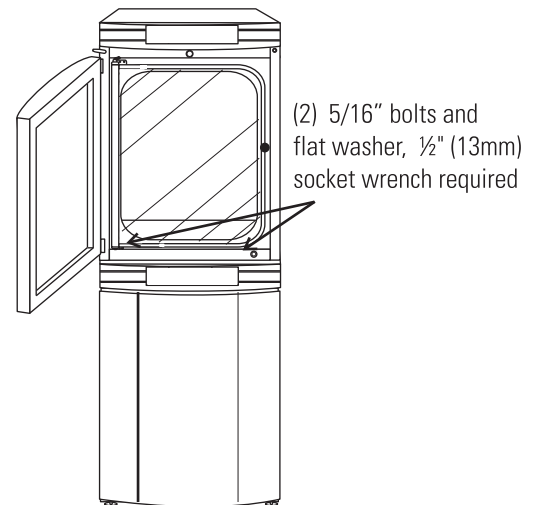

Figure 1-7. Align Slots and Bolts
- Align the sides of the top unit and bottom unit and slide the top unit forward until the slots in the base of the top unit align with the 5/16"-18 stacking bolts in the exterior top of the bottom unit (Figure 1-7).